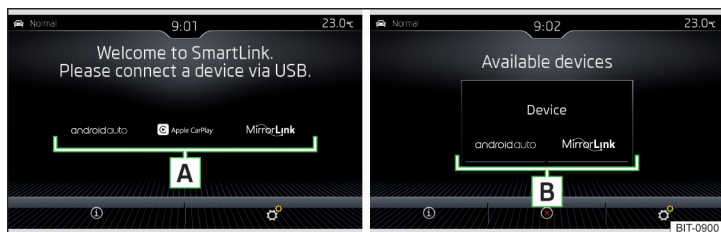

Fig. 175 Supported communication systems / Example of available communication systems of the connected external device
If no external device is connected, then a menu with supported communication systems SmartLink is displayed **[A]** » Fig. 175,
Main menu » Fig. 175
- Select the type of supported communication system **[B]** » Fig. 175 on page 142.